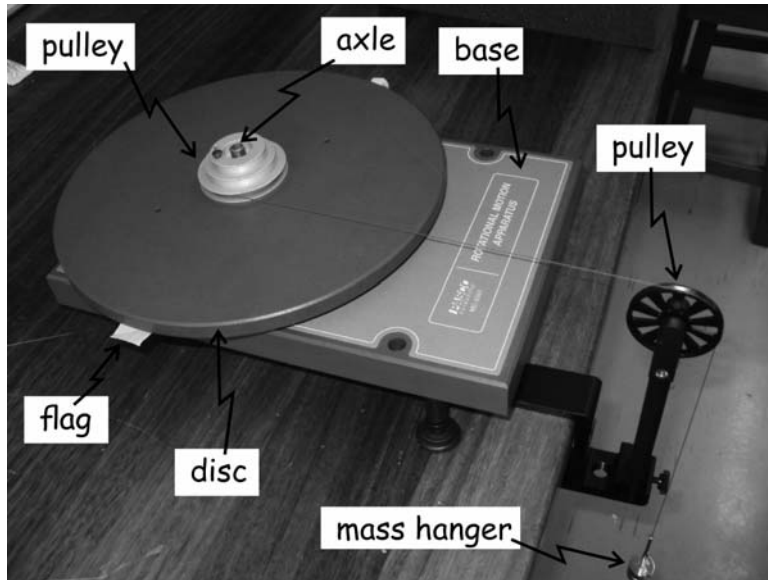

Fig. 1 The rotational inertia apparatus.
- A base onto which the disc, with a pulley on top of it, is mounted horizontally with an axle - see **figure 1** on the next page.
- Another separate pulley that can be mounted with a clamp on the edge of the laboratory work surface - the black pulley on the right-hand side of **figure 1**.